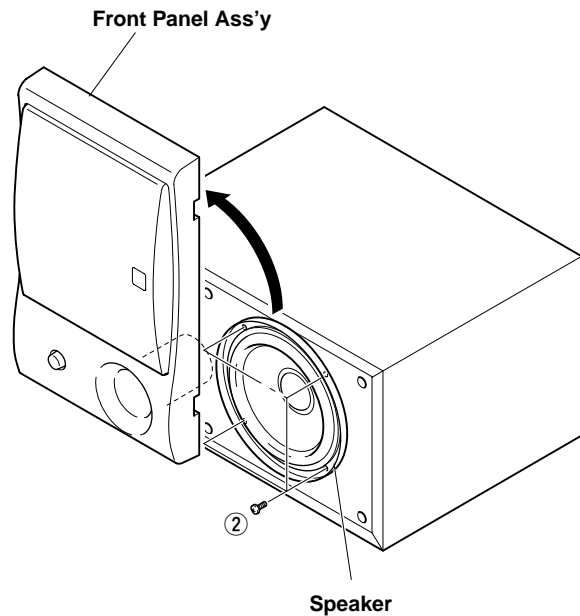

Fig. 2
- Set up the front panel ass'y in the direction of the arrow, in Fig. 2.
- Remove 4 screws ( ② ) in Fig. 2, and remove the speaker.